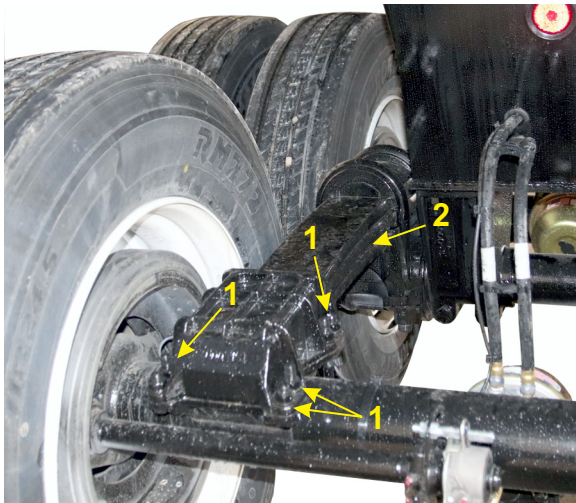

Figure 4-2 – Trailer Suspension
- a. Make sure all suspension mounting bolts (1, Figure 4-2) are secure and not damaged. Inspect suspension for each side of the semitrailer.
- b. Inspect the suspension leaf springs (2, Figure 4-2). If there are any broken or cracked spring leaves, the semitrailer should immediately be taken out of service.